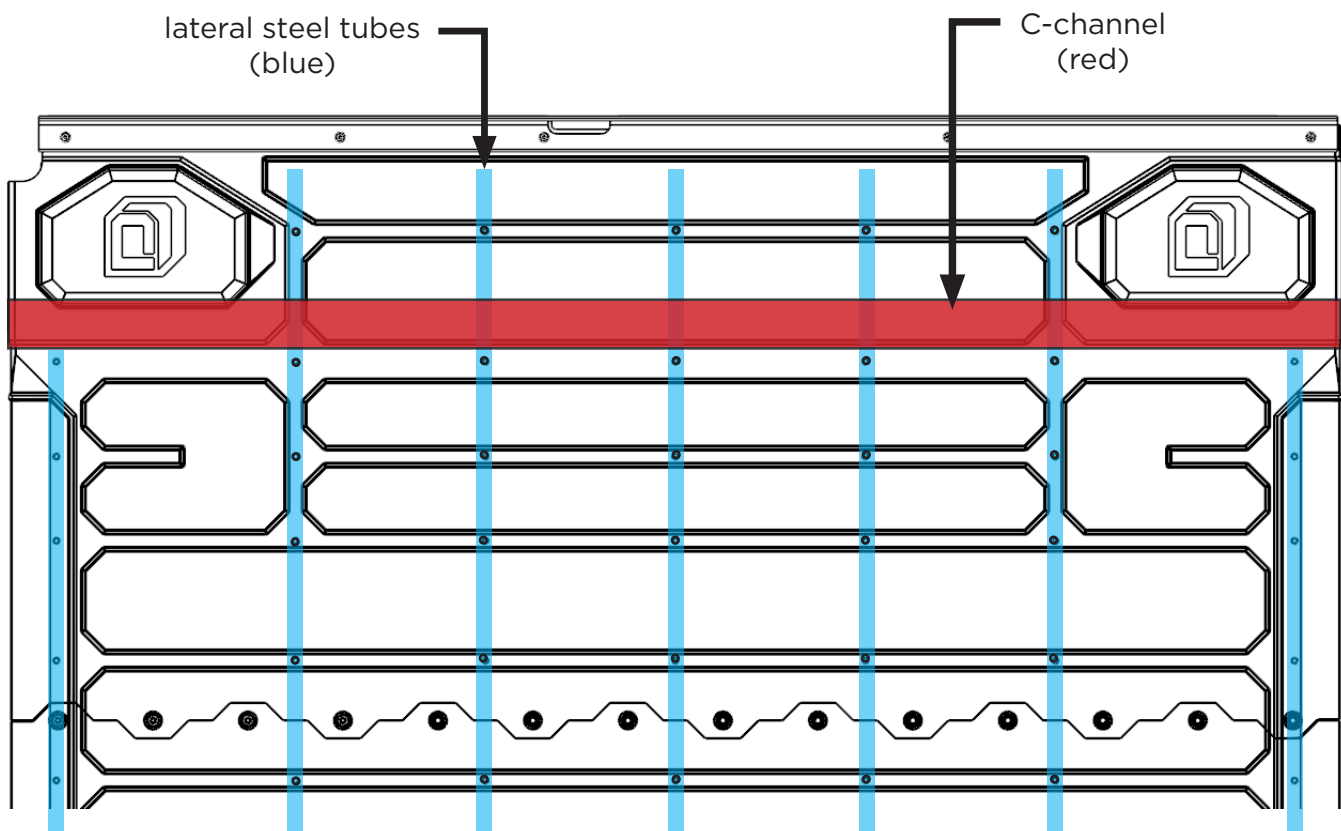

FIG 1A
1. Always bolt van shelving mounting attachments to the lateral steel tubes which run underneath the deck. Each deck half contains six or seven 1" x 1/2" galvanized steel tubes co-molded laterally into the deck's HDPE. The steel tubes are indicated by dimples in the surface of the deck as shown in **BLUE FIG 1A**. *Do not bolt or screw shelving only to the HDPE material of the DECKED system.*
Do not drill into the C-channel, indicated by **RED FIG 1A**. This channel is where the drawer wheels roll. If van shelving components need to be located on top of the steel C-channel, see **FIG 2E** for reference.